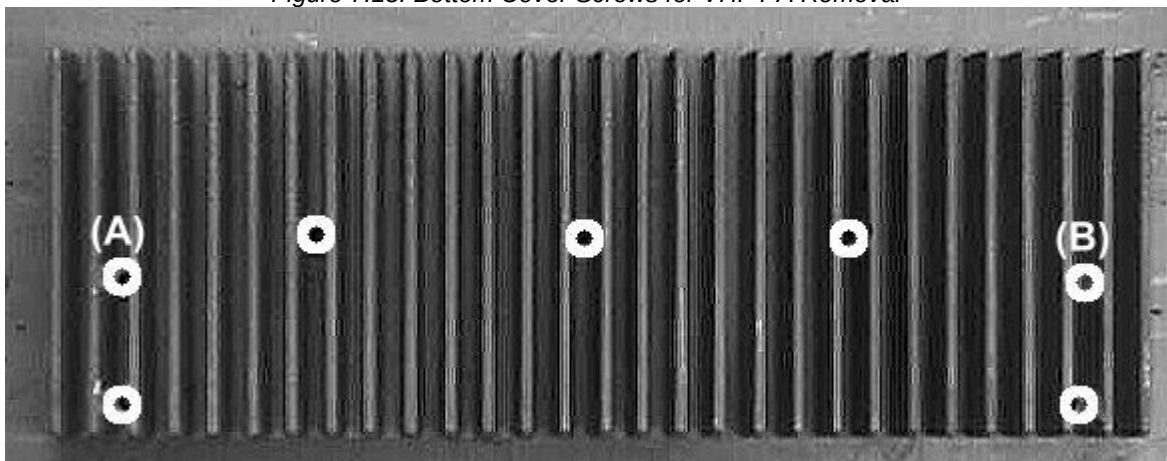

Figure 7.16: Heat Sink Screws for VHF PA Removal
3. Remove the seven cap screws holding the heat sink casting to the main casting as per Figure 7.16.
7. Refit the seven cap screws holding the heat sink casting into the main casting. (Refer to Figure 7.16)